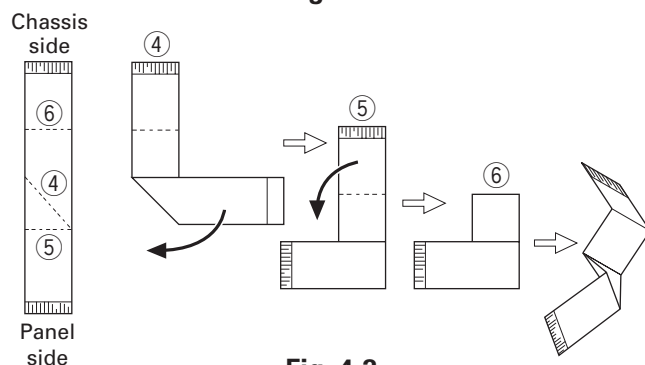

Fig. 4-2
2. Remove the flat cable from the connector (CN902) of the display unit of the panel. (③)
3. Fold the black line of the flat cable (in three parts) as shown in Figure 4-2. (④, ⑤, ⑥)